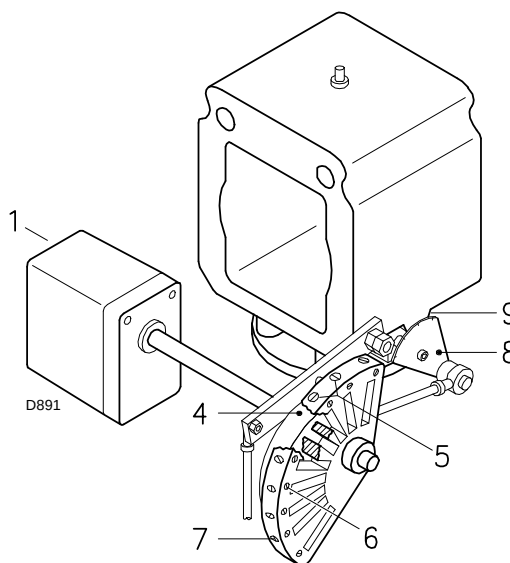

Fig. 30
Progressively adjust the end profile of cam 4)(Fig. 30) by turning the screws 7).
Key (Fig. 30)
Progressively adjust the initial profile of the cam 4)(Fig. 30, page 26) by turning the screws 5).
- release the cam 4)(Fig. 30, page 26) from the servomotor by pressing (and moving to the right) the release button on the servomotor;
- Once optimum adjustment has been reached, fix it with the screws 6)(Fig. 30, page 26).